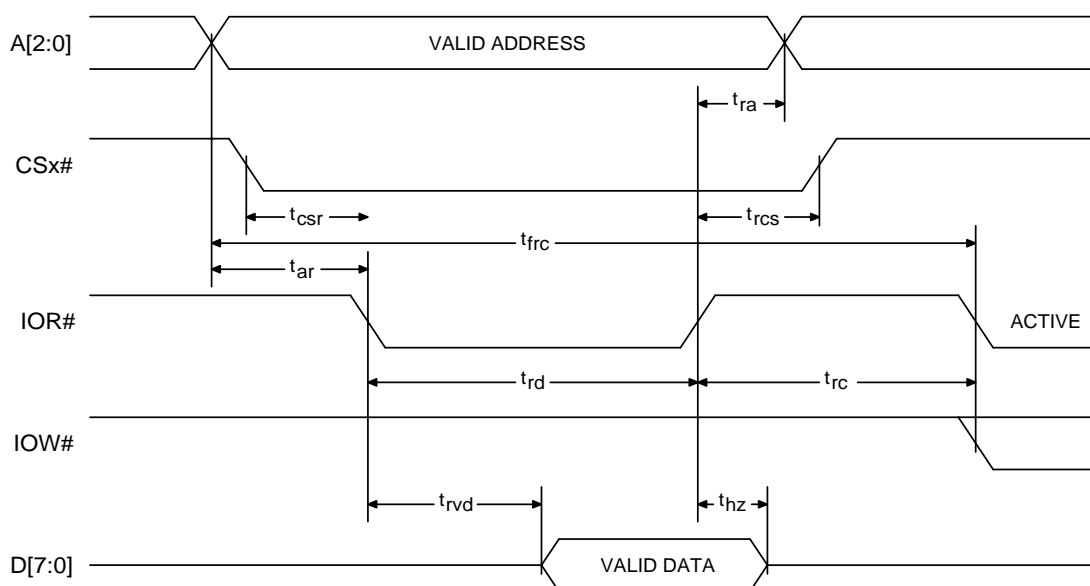

Fig 1. Read Cycle Timing
7.4. Read cycle switching characteristics over recommended ranges of operating free-air temperature and supply voltage (See Fig 1.)